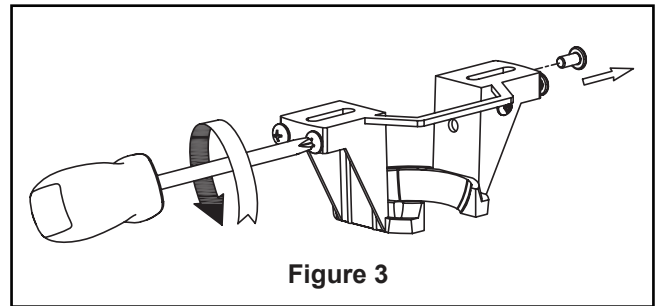

Figure 3
Your new ceiling fan will require a grounded electrical supply line of 120 volts AC, 60 HZ, 15 Amp Circuit. Electrical code requires use of a fan-rated outlet box to support the extra weight and motion associated with a ceiling fan. A fan-rated box will be labeled as such and typically supports up to a 70lb ceiling fan. Fan-Rated Outlet Boxes vary in ratings and design. Ensure the ratings of your ceiling fan outlet box meet the requirements for the ceiling fan being installed. Figure 1, Figure 2 and Figure 3 depicts different structural configurations that may be used for mounting the outlet box.
### Deep box with brace (Figure 3)
- 3. Remove the hairpin clip and clevis pin from the bottom of downrod. Retain the pin and clip for reinstallation in step 5. (Figure 3)
3. Route your fan wires and safety cable through the canopy trim ring and ceiling canopy. (Figure 3)
1. Completely remove one screw from either side of the hanger bracket--be sure it is the screw to your right when facing it--and keep for reinstallation on page 12 or 13 (**How to Install Your Canopy Housing**). Loosen the other two screws that were not removed. (Figure 3)
3. After connections have been made, turn leads upward and carefully push leads into the outlet box, with the white and green leads to one side of the box and the black leads toward the other side. (Figure 3)
3. Push the canopy trim ring up to conceal the screws, such that the mounting tabs seat into the dimpled grooves in the ceiling canopy midway between the screws. (Figure 3)
- 3. Assemble the switch cup assembly onto the housing adapter with previously removed screws. (Figure 3)